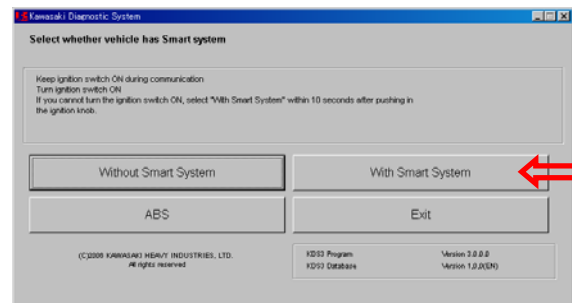

**Fig. 5-53 FI ECU Registration**
- When Fig. 5-53 appears select *OK*